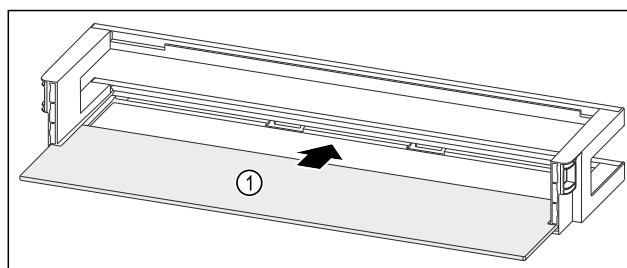

Fig. 126 Door rack with shelf
- ▶ Push the shelf Fig. 126 (1) into the side recesses.